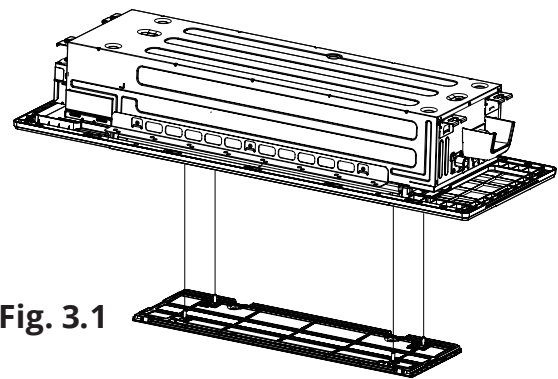

Fig. 3.1
3. Then, press the **DOWN** button on the remote control. The air intake grille will automatically start lowering. Wait until it stops before attempting to remove the air filter (**Refer to Fig. 3.1**).